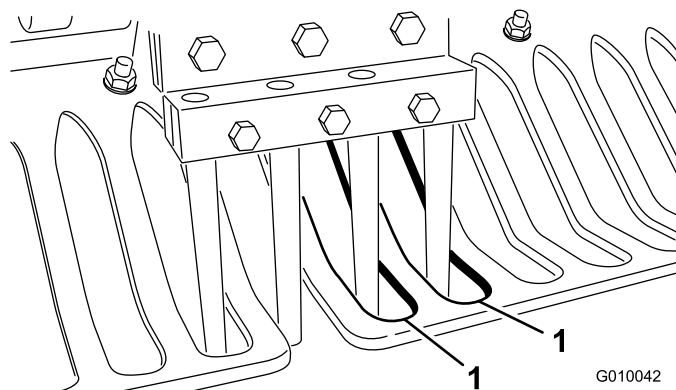

Figure 26
6. Check that the tines line up with the center of the gaps in the turf guards (Figure 26). Adjust the turf guards as required and tighten the nuts.